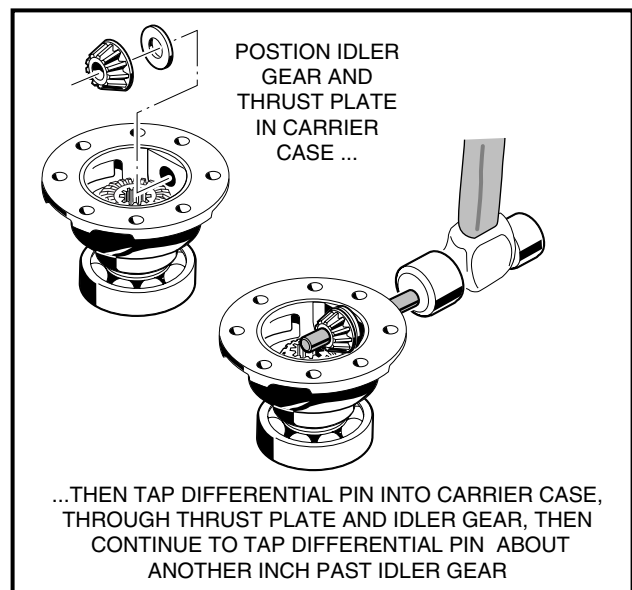

FIGURE 10-63
3. Start the differential pin (88) (**Figure 10-6**) into the carrier case by lightly tapping it in with a hammer as shown. Before the pin enters the inside of the carrier case, position the thrust plate (85) and idler gear (89) (**Figure 10-6, Page 39**) in the case and then continue tapping the pin through the thrust plate and idler gear as shown (**Figure 10-63**).